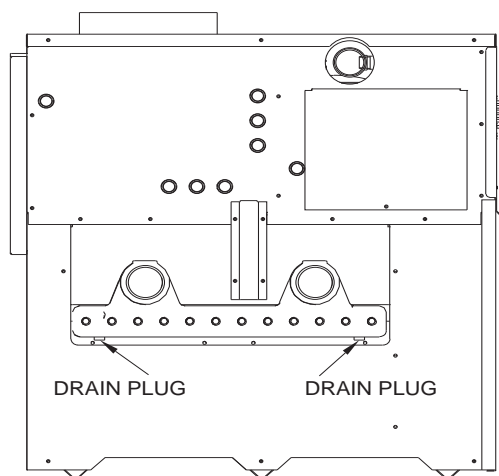

FIG. 3 Draining Unit
4. Drain the unit completely. Remove one threaded plug or bulbwell from the inlet side of the front header and one from the outlet side of the front header on the heat exchanger. Blow all water out of the heat exchanger (see FIG. 3).